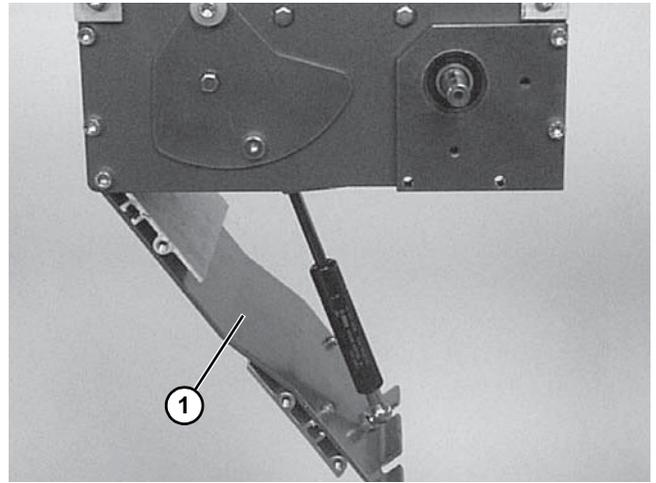

Figure 76
- Carefully close the drive module tension door (**Figure 76, item 1**). See WARNING.